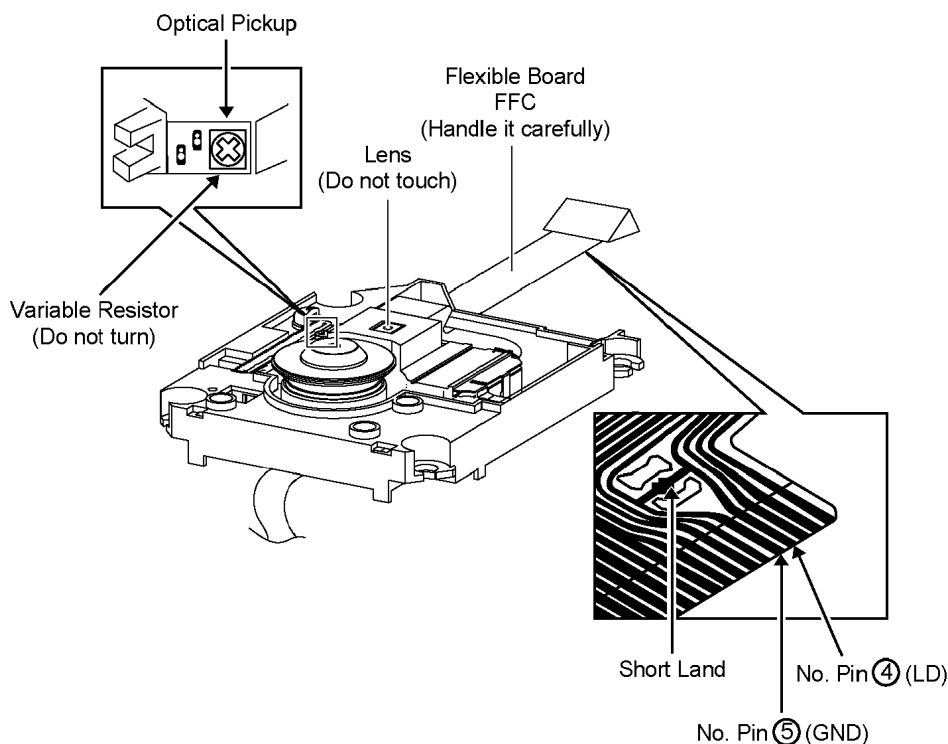

Fig. 5.1
2. Short-circuit the flexible cable of optical pickup remove from the circuit board using a short-circuit pin or clip in order to prevent laser diode from electrostatic destruction (Refer to Fig. 5.1 and Fig. 5.2)
3. Do not handle flexible cables forcibly as this may cause snapping. Handle the parts carefully (Refer to Fig. 5.1)
4. A new optical pickup is equipped with an anti-static flexible cable. After replacing and connecting to the flexible board, cut the anti-static flexible cable. (Refer to Fig. 5.1)